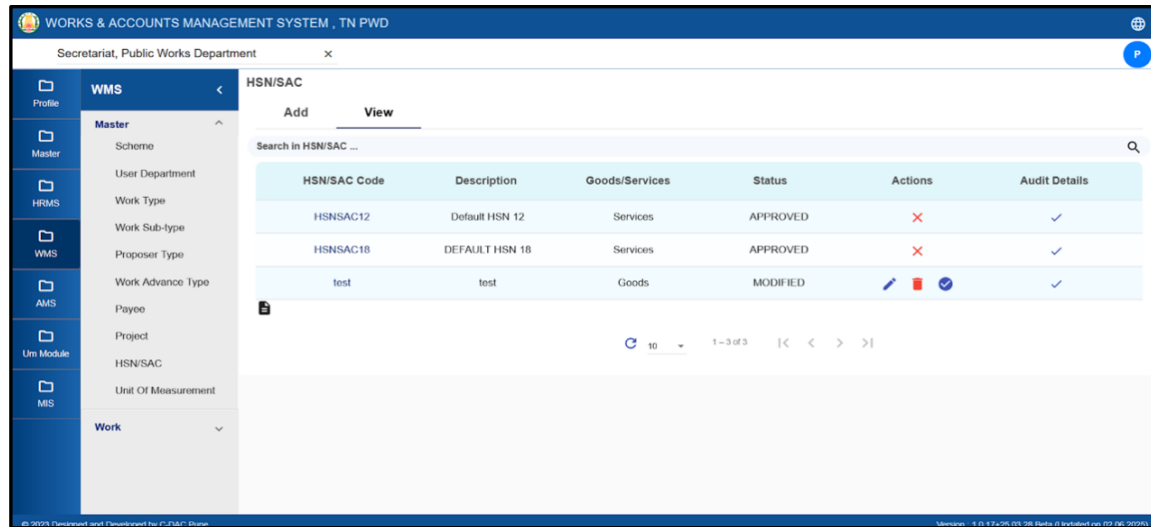

Figure 4.4.8.2 View HSN/SAC
- On the HSN/SAC page, User can see two tabs: **Add** and **View**. Click on the **Add** tab (already selected in the figure 4.4.8.1) to start adding new HSN/SAC details.